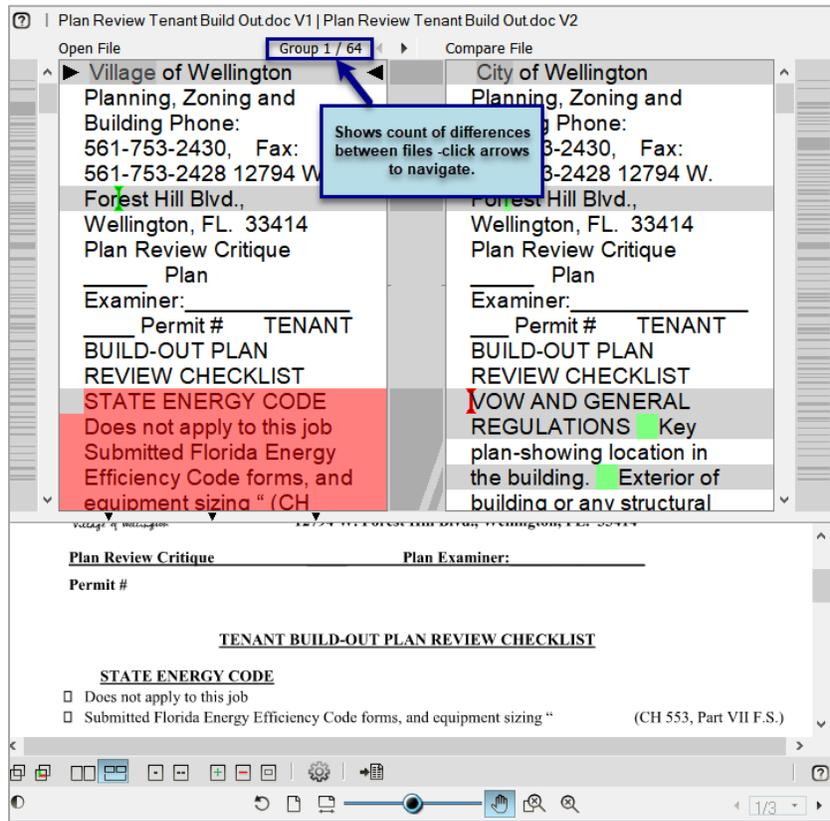

Figure 25.1 Text Compare Tool
- 4) Select **Text Mode**  . The display will be like Figure 25.1